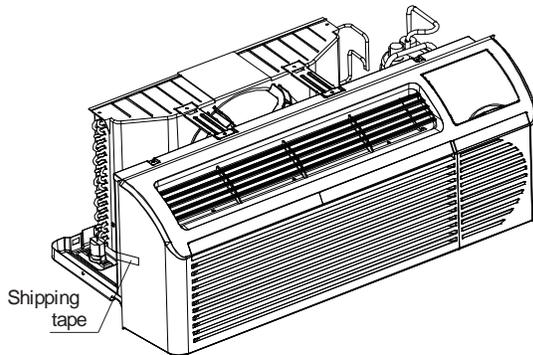

Fig.5. – Shipping Tape Location
1. Carefully remove shipping tape from the front panel and vent door. See Fig.5.